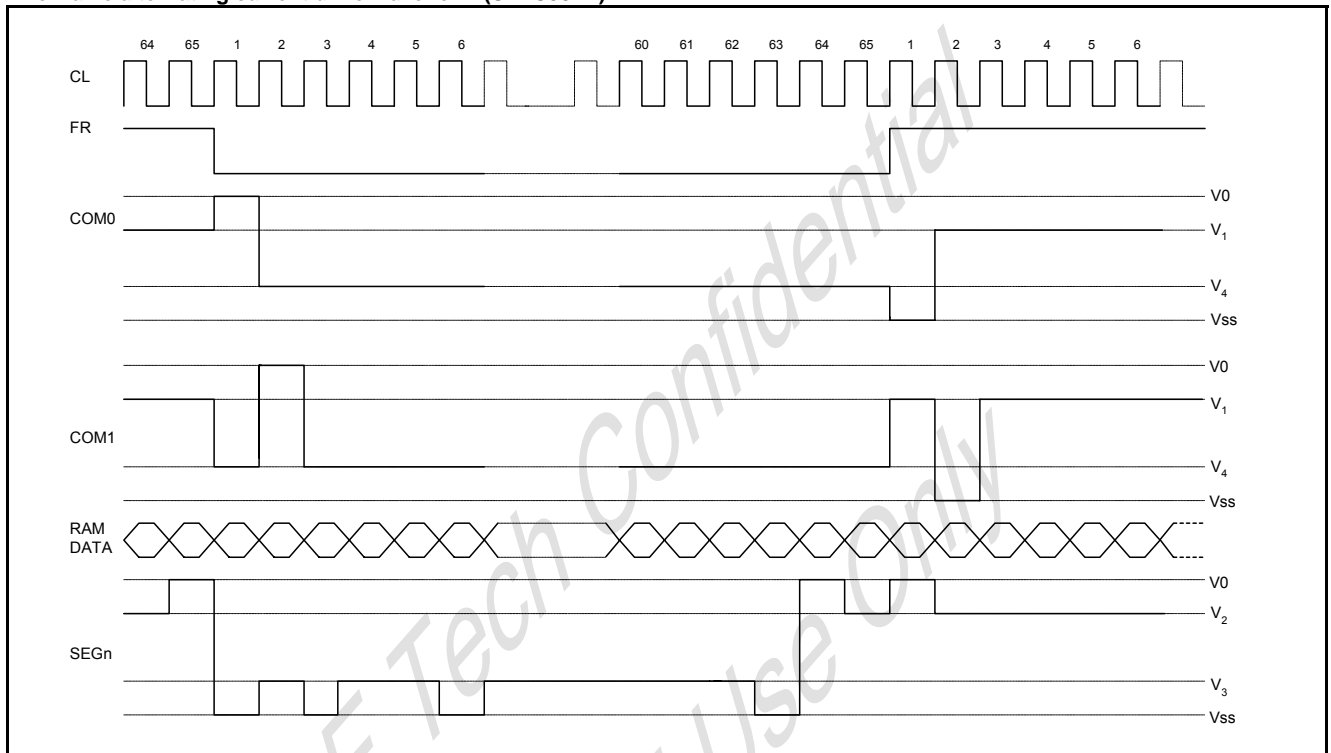

Figure 5
data RAM is accessed asynchronously during liquid crystal display, there is absolutely no adverse effect (such as flickering) on the display. Moreover, the display timing generator circuit generates the common timing and the liquid crystal alternating current signal (FR) from the display clock. It generates a drive-wave form using a 2-frame alternating current drive method, as is shown in Figure 5, for the liquid crystal drive circuit.